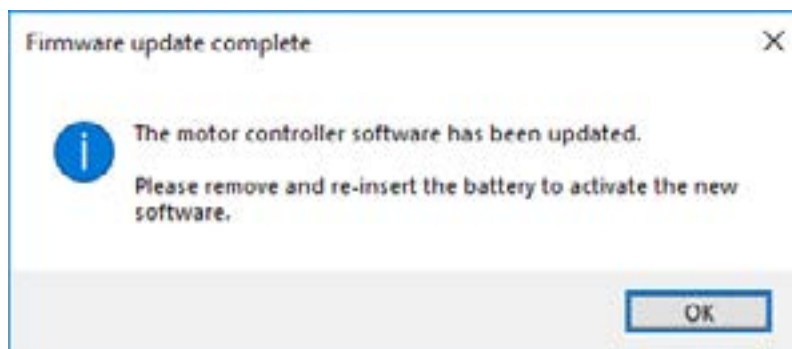

Figure 3.35 Firmware update – Completion
5. Click on “OK” once the update is complete (Fig. 3.35) and then remove (for at least 5 seconds) and reinstall the battery in the bike.